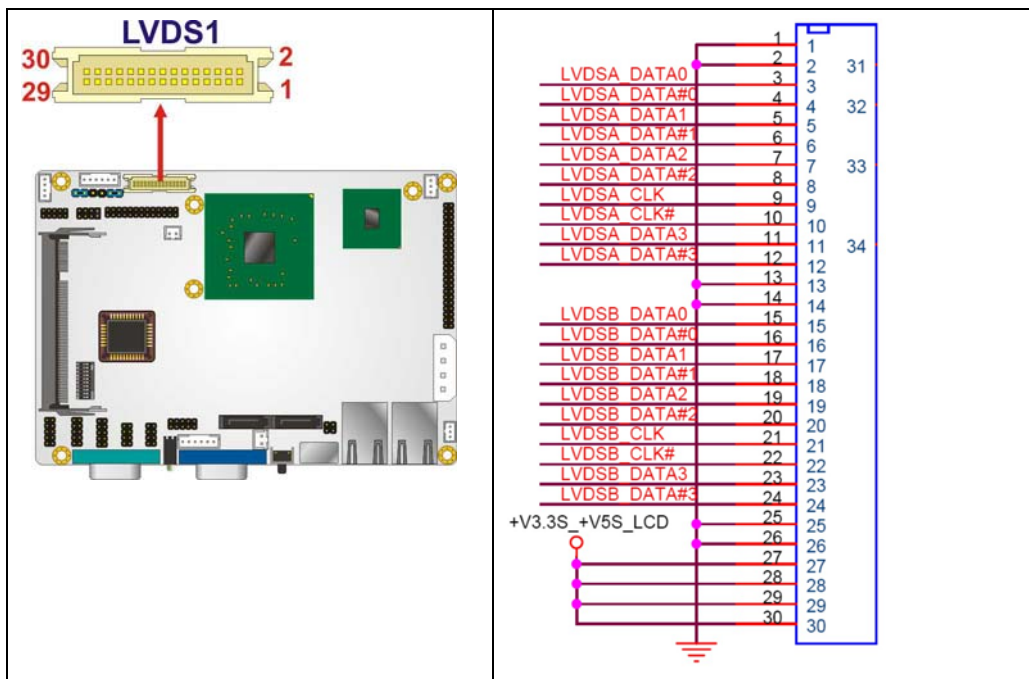

Figure 4-13: LVDS LCD Connector Pinout Locations
- CN Location:** See **Figure 4-13**